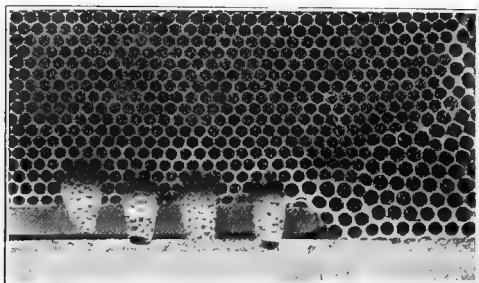
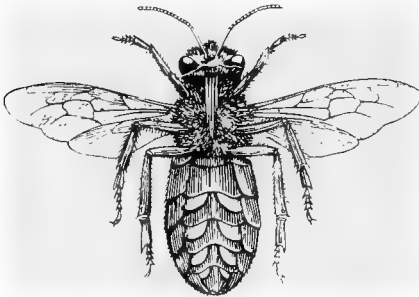

FIG. 3.
FIG. 4.
*Combs*, Fig. 3, are made of beeswax, and a small quantity of pollen. Wax is not gathered, but is secreted in eight little pockets on the under side of the worker bee, Fig. 4. It is made from honey; for its secretion the bees gorge themselves with food, and then hang in festoons in the hive perfectly quiet for twenty-four hours; during that time the food is changed by chemical action into wax, and exudes in a liquid state into the pockets, where it hardens, and is then plucked out by pincers situated on the hind legs, and moulded by means of the jaws into cells.